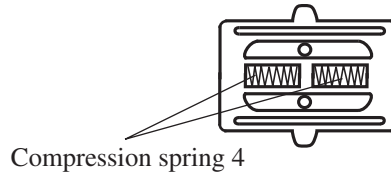

Fig. 4
- 1) Place two Compression spring 4s into Speed change lever as illustrated in Fig4.